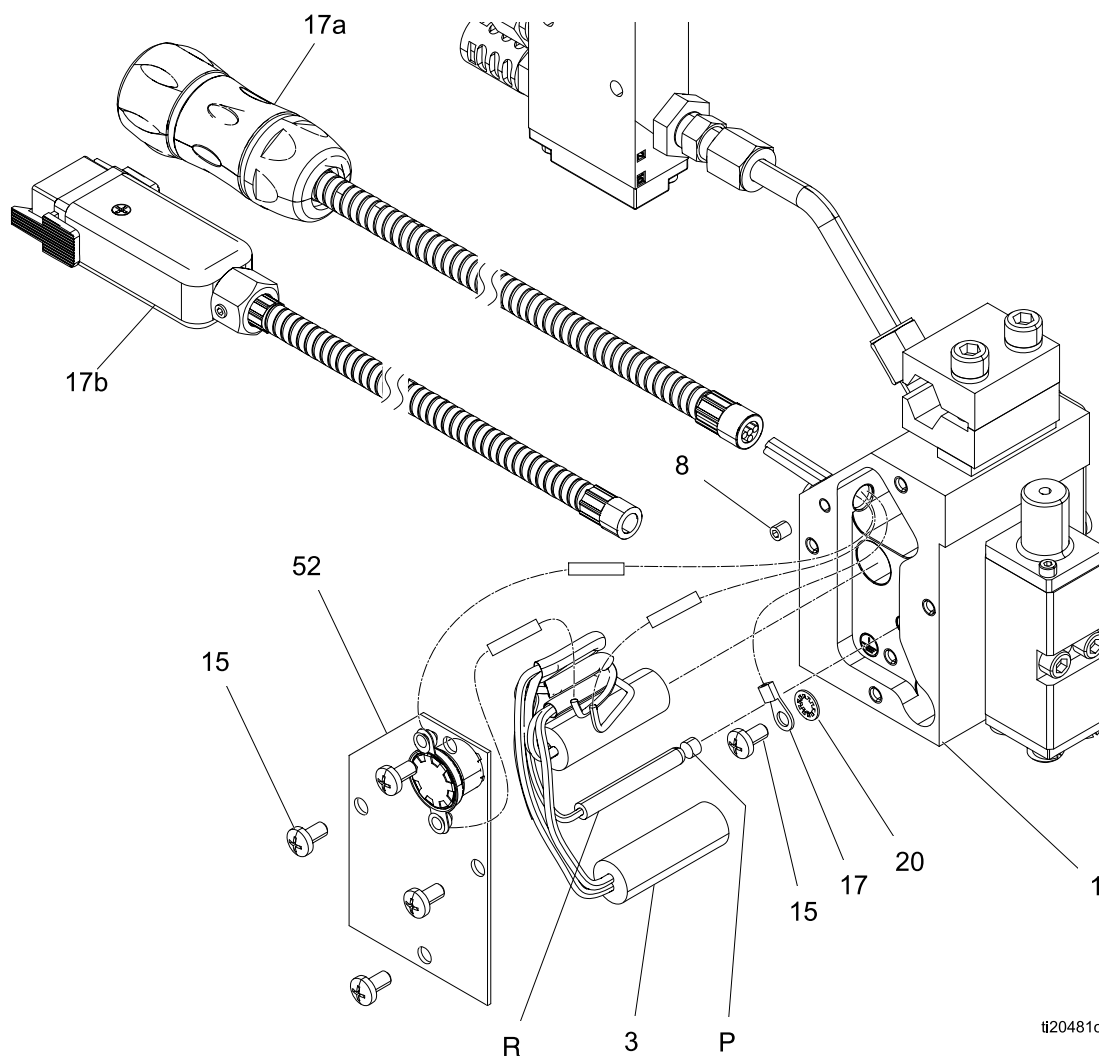

Figure 14 Repair Parts
See Fig 14, page 24.
11. Insert the plug (P), RTD (R) and thermal cutoff (52) into the manifold ports. See Fig 14.